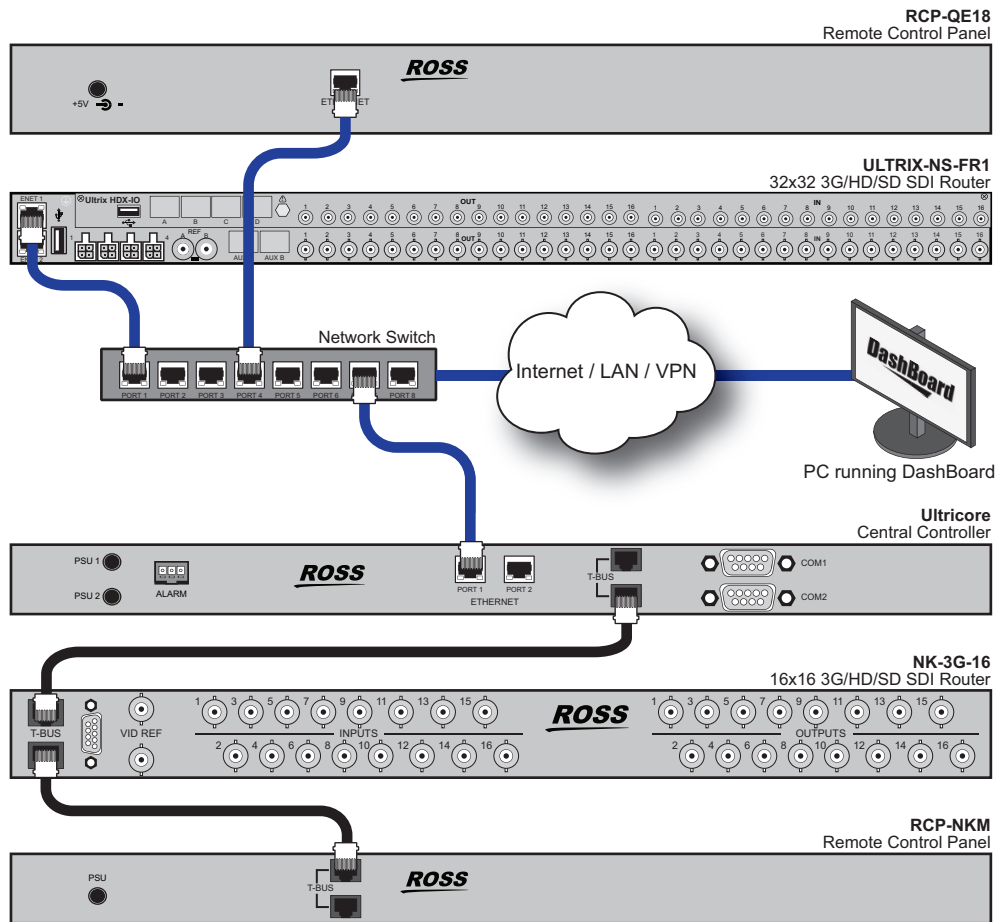

Figure 46 Example of a Routing System with Ross NK Devices and an ULTRIX-FR1 Router
- Connect the NK device via the T-Bus connections on an Ultracore and then set up communications via the Ultracore interface in DashBoard. (Figure 46)
Adding an Ultracore Central Controller (CC) to the system allows for native T-BUS devices to be added to the system, as well as RS-232 or RS-422 third-party control. The Ultracore communicates over Ethernet to devices in your routing system. Figure 46 shows a typical connection of Ultracore